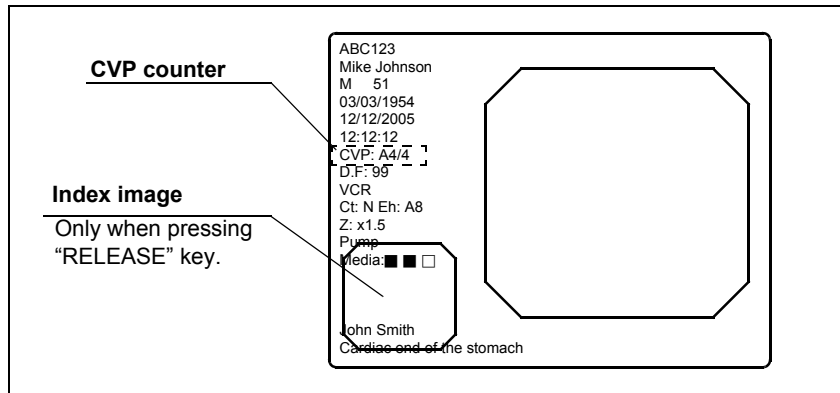

Figure 5.81
4. Press the "CAPTURE" key or "RELEASE" key to capture the endoscopic image into the memory of the video printer. The CVP counter on the monitor increments by one (see Figure 5.81).
2. Press the "CAPTURE" key or "RELEASE" key to overwrite the new image on the previous image. The CVP counter on the monitor increments by one (see Figure 5.81).